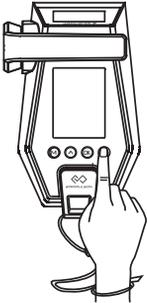

Figure 4-3
Step3: Press and hold (≥ 2 secs) the " ⏻ " button to power on the remote control (Figure 4-3).